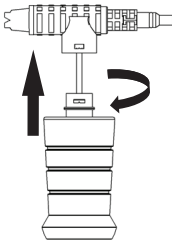

Figure 14
3. Fit the detergent spraying nozzle to the bottle by inserting the detergent delivery tube into the bottle and screwing the nozzle on to the head of the bottle. See figure 14.